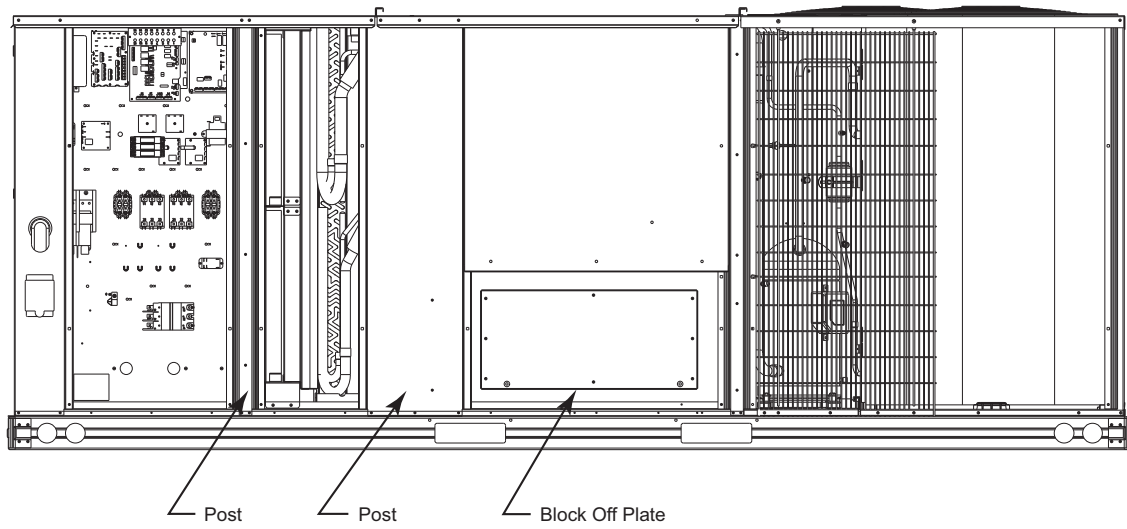

Fig. 2 - Block-Off Plate and Post Locations
3. Remove the block-off plate and save screws. Remove post adjacent to control box and post located between filter access and blower access. (See Fig. 2.)